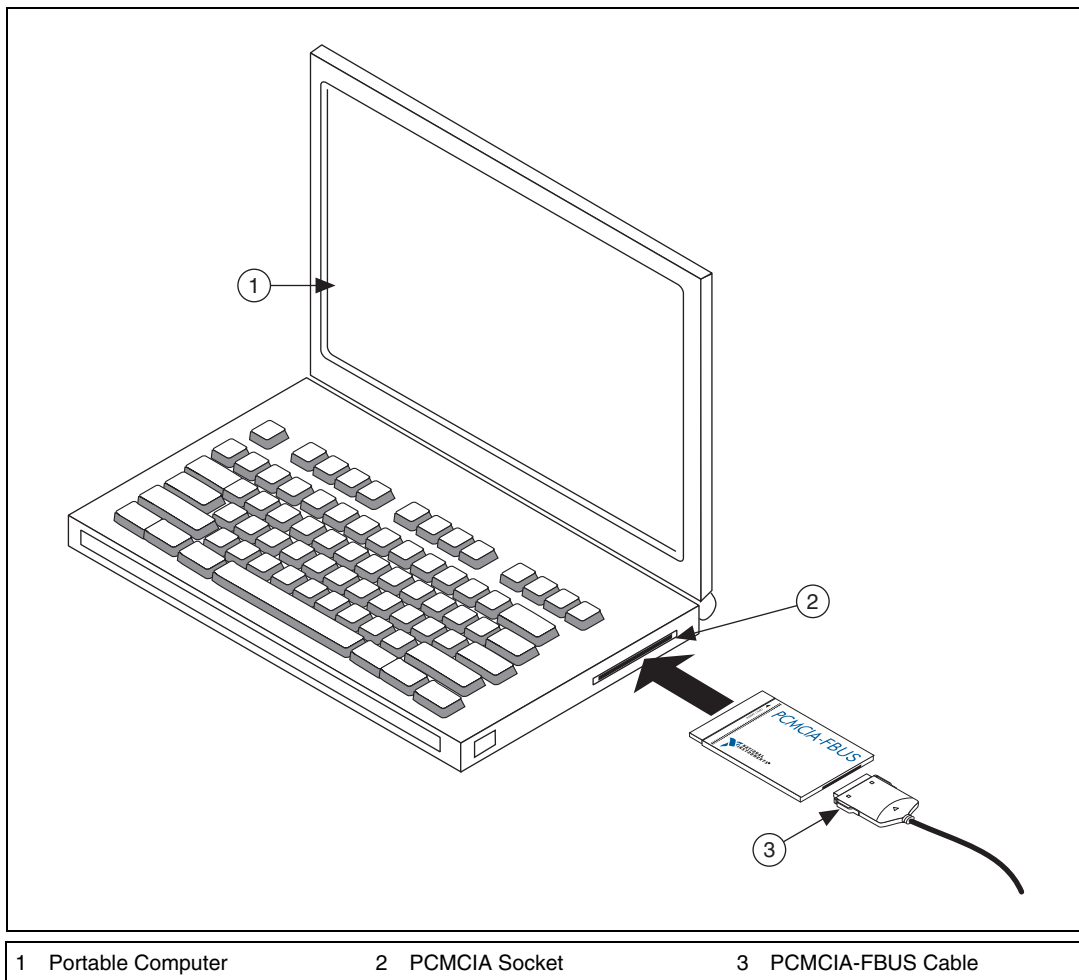

Figure 2. Inserting the PCMCIA-FBUS Card
2. Insert the card into a free PCMCIA (or Cardbus) socket. The card has no jumpers or switches to set. Figure 2 shows how to insert the PCMCIA-FBUS and how to connect the PCMCIA-FBUS cable and connector to the PCMCIA-FBUS card. However, the PCMCIA-FBUS/2 cable has two connectors. Refer to Chapter 3,